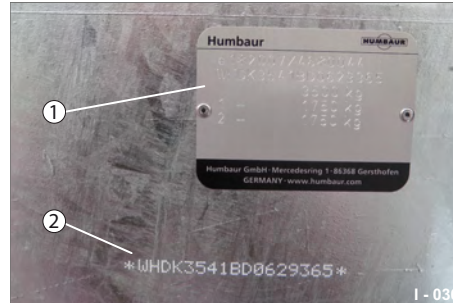

Fig. 39 Vehicle front
► **Do not** remove, tape over or paint over the nameplate (Fig. 39/1) and the engraved VIN number (Fig. 39/2) on the chassis.